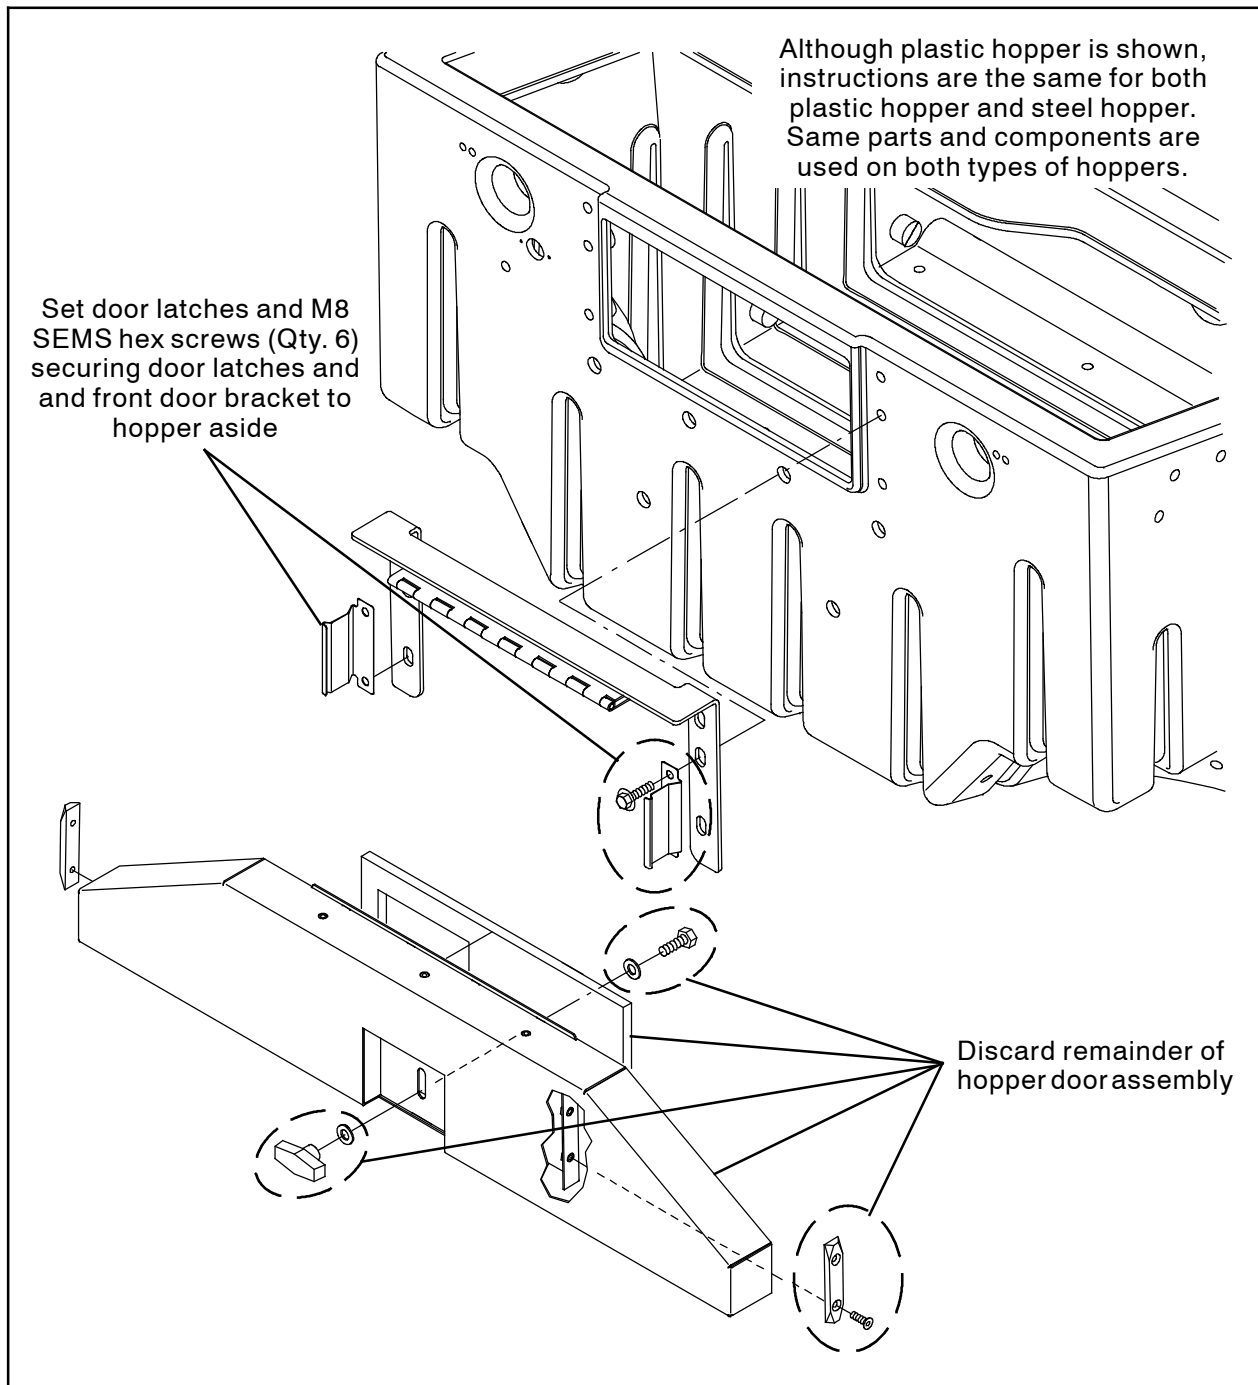
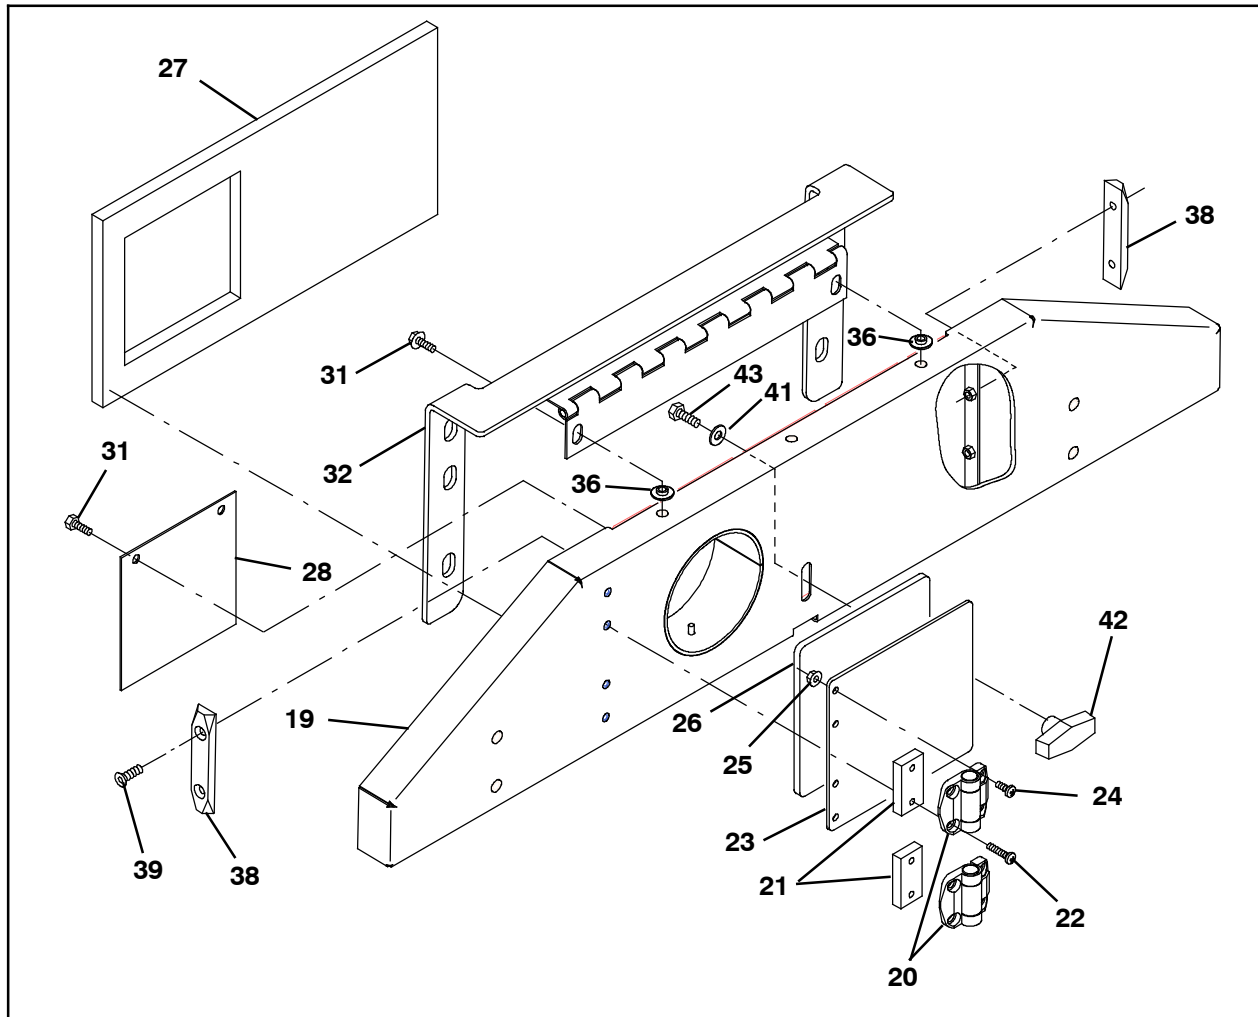

FIG. 2
FIG. 3
7. Remove the existing hopper door from the hopper. Set both door latches and the six hex screws aside. Discard the remainder of the hopper door assembly. (Fig. 2)
8. Use a hex screw (43) and flat washer (41) to install the plastic knob (40) onto the hopper door (19). (Fig. 3)
9. Install the plastic adhesive seal (26) onto the vacuum wand door (23). (Fig. 3)
10. Use four M5 pan screws (24) and four M5 hex nuts (25) to install the two hinges (20) onto the vacuum wand door (23). (Fig. 3)
11. Use four M5 pan screws (22) and two hinge spacers (21) to install the vacuum wand door assembly assembled in the previous step onto the hopper door (19). (Fig. 3)
12. Use two pan screws (39) to install each nylon block (38) onto the hopper door (19). (Fig. 3)
13. Use two SEMS M6 hex screws (31) to install the vacuum wand flap (28) onto the hopper door (19). (Fig. 3)
14. Install the urethane gasket (27) onto the hopper door (19). (Fig. 3)
15. Use two SEMS M6 hex screws (31) and two flange sleeves (36) to install the door bracket (32) onto the hopper door (19). (Fig. 3)
16. Use saved M8 SEMS hex screws to install the hopper door assembly and the saved door latches onto the hopper. (Fig. 2 / Fig. 3)